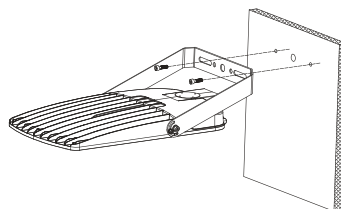

Fig. 40
4. Use screws to install the fixture onto the wall, as shown in Fig. 40.